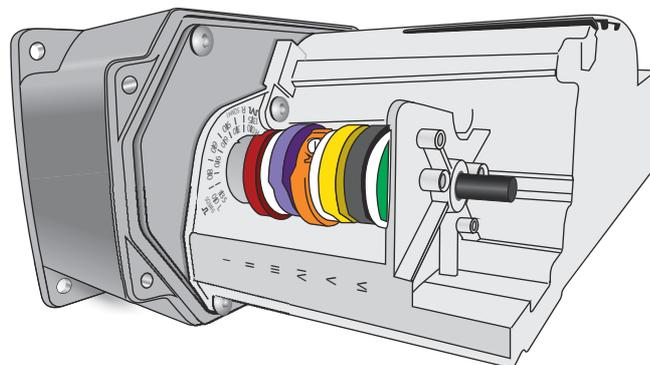
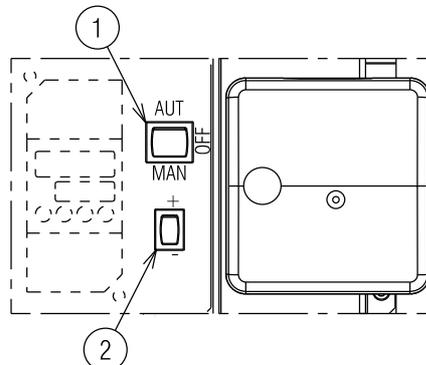
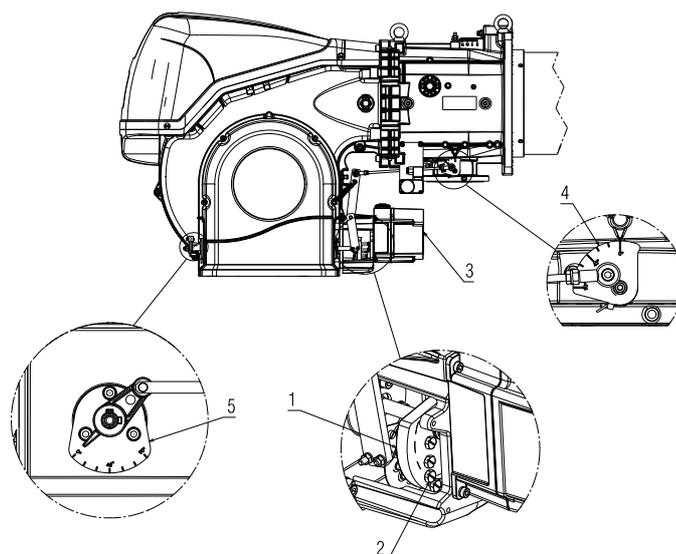
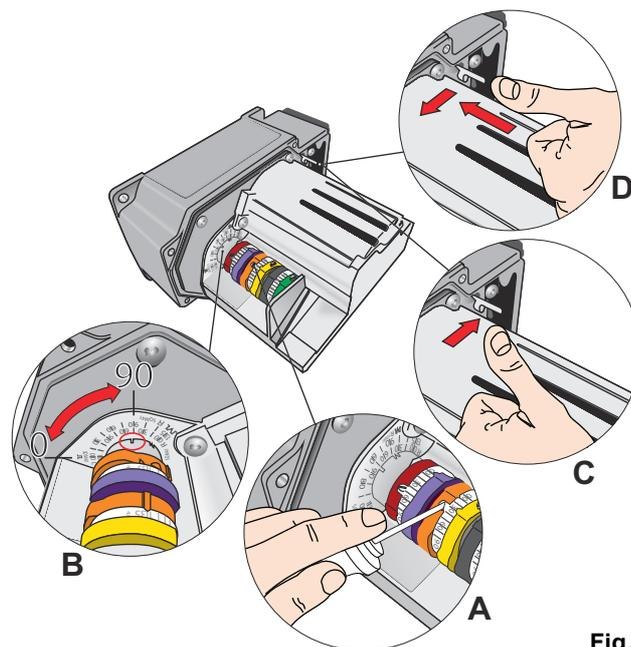

Fig. 28
Fig. 29
Fig. 31
Fig. 32
The servomotor (Fig. 28) provides simultaneous adjustment for the air damper, by means of the adjustable profile cam and the gas butterfly valve. Completes a rotation of 90° in 30 s.
Put the selector 1)(Fig. 29) in position "MAN".
- put the switch 1) of Fig. 29 to "OFF" and wait for the control box carries out the switching off phase;
The air is adjusted by varying the angle of cam III)(Fig. 28) and by using the selector 2)(Fig. 29). To adjust the cam of the servomotor, see Fig. 32 A).
In the above instructions we left the burner running at the MIN output. Now press the "increase output" button 2)(Fig. 29 on page 28), and keep it pressed until the servomotor has opened the air damper and the gas butterfly valve.
Key (Fig. 31)
Press button 2)(Fig. 29 on page 28) "Diminishing output" and keep it pressed until the servomotor regains (Fig. 32 B) the adjustment made in the factory: See Tab. J on page 27 and as a consequence adjusting the air damper 5) and the gas butterfly valve 4)(Fig. 31 on page 29).
Progressively adjust the end profile of the mechanical cam 1) Fig. 31 on page 29, using the screws 2).
For example, calibrate the minimum output to 800 kW, check the emissions and if necessary increase or decrease the opening of the air damper ("Air adjustment" on page 29). Bring the output to 800 kW using the screws 2) of the mechanical cam (Fig. 31 on page 29) and check the emissions.
The regulation of the air is carried out using the angle of the cam III) of the servomotor (Fig. 28 on page 27) and by using the selector 2)(Fig. 29 on page 28). To adjust the cam of the servomotor, see Fig. 32 A).
To adjust the cam III, see Fig. 32 A) e B).
After adjusting the maximum and minimum output of the burner, carry out air adjustment on higher intermediate positions of the servomotor. The passage from one position to the next one is obtained by pressing the button 2) on the symbol (+) or (-)(Fig. 29 on page 28). For a brief period press the button 2)(Fig. 29 on page 28) "Output increase" so that the servomotor rotates by about 20°, see servomotor graduated index Fig. 32 B) and the air damper graduated index 5)(Fig. 31 on page 29).
Screw or unscrew the screw 2) of the mechanical cam (Fig. 31 on page 29) to increase or decrease the gas output so as to adjust it to the corresponding air output, to obtain optimal combustion.
Switch off the burner using the switch 1)(Fig. 29), OFF position, release the mechanical cam I)(Fig. 31) to separate the gears of the servomotor, pressing and shifting downwards the button 3)(Fig. 32 D) and check a few times, by rotating the mechanical cam I)(Fig. 31) manually backwards and forwards, that the movement is smooth and without any hindrance.
It is recommended that the mechanical cam I)(Fig. 31 on page 29) be bound again to the servomotor by shifting button 3)(Fig. 32 C) upwards.